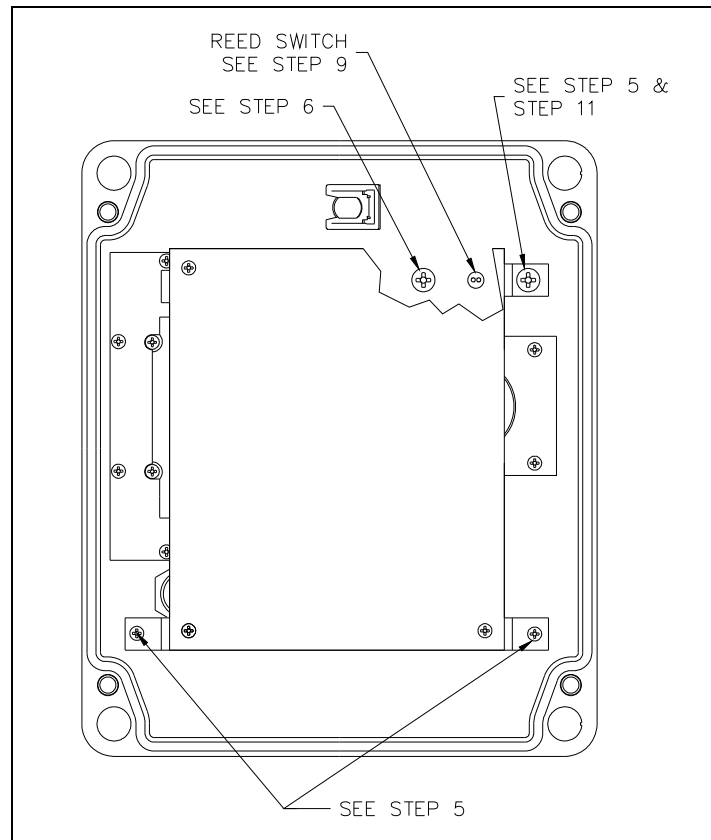

Figure 4.
6. Remove the remaining screw that secures the handset cradle to the front cover. See Figure 4.
9. Thread the leads of the reed switch through the center top hole. See Figure 4.
10. Secure the plastic cradle on the front cover using the #8 thread cutting screw. See Figure 4.